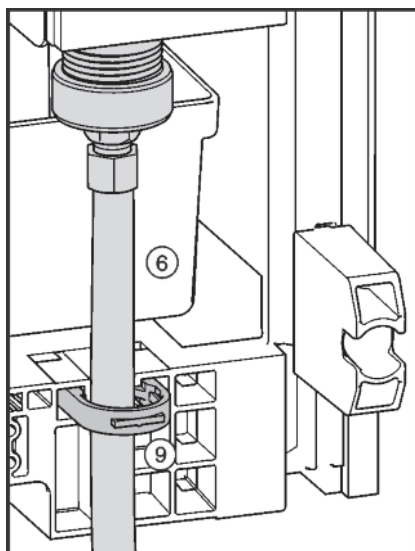

Fig. 19
- ▶ Affix the water supply Fig. 19 (6) to the housing using the locking element Fig. 19 (9).